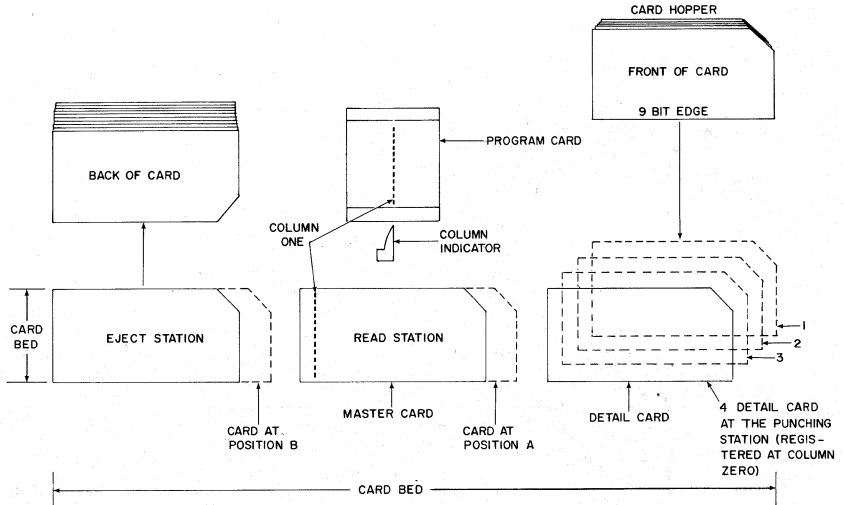

Figure 3
- a. Blank tab cards are placed in the Card Hopper with the front of the card forward and the 9 bit edge at the bottom of the card. From there, the first one is pushed down and to the left to position two (Figure 3) when the first feed occurs. The card hopper will hold about 500 cards.
ed, a "Release" cycle will move the detail card to the "Read Station" (Figure 3) where the detail card becomes the "Master Card". The tab card in the detail bed is registered at column zero in the punching station and becomes the detail card. Another tab card is pushed down from the card hopper and pushed to position two. The master card at the reading station is registered at column one.
3. The "Program Card" on the "Program Drum" is always at the same card column as the master card; that is the program card will be at column ten (according to the "Column Indicator" (Figure 3) when the master card is at column ten (in the reading station). Note that the detail card will be at column nine in this instance because the card punch reads and feeds and then punches.
There are two intermediate positions. They are (A) a position between the punching and reading stations and (B) a position just ahead of the eject station (Figure 3). When the Auto Feed switch is in the Off position and the release function takes place, the detail card is "released" from the punching station and fed to the intermediate station between the punching and reading stations. The master card is "released" from the reading station and fed to the position just ahead of the eject station. With the tab cards in these positions it is possible to check the detail card for content and correctness. Part of the master card is covered by the reading unit.